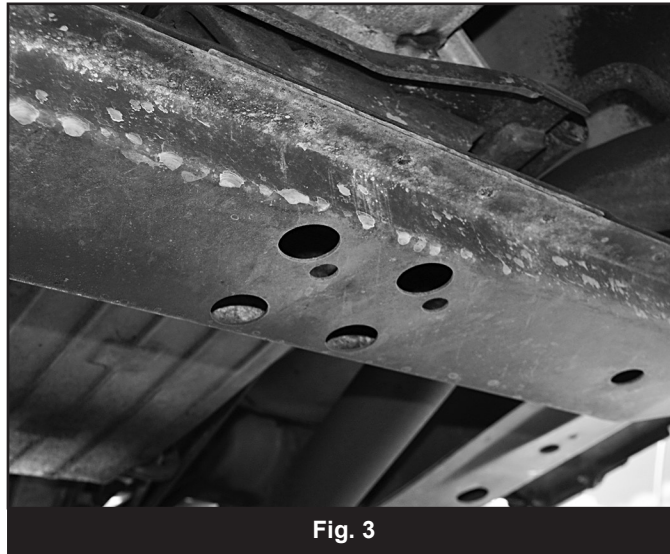

Fig. 3
8. Remove the four transmission mount nuts from the transmission crossmember (Fig 3). Retain hardware.